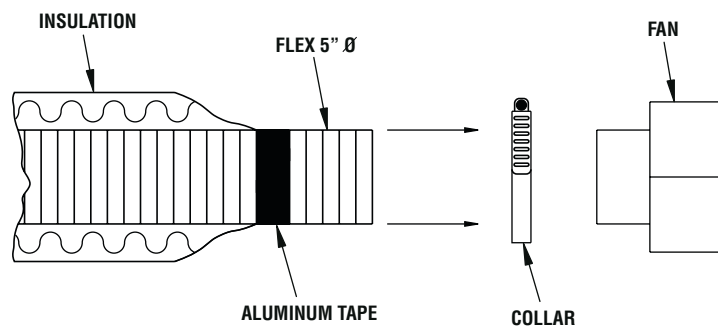

Figure 12
4. Attach the flexible pipe to the fan, using the collars (**Figure 12**).